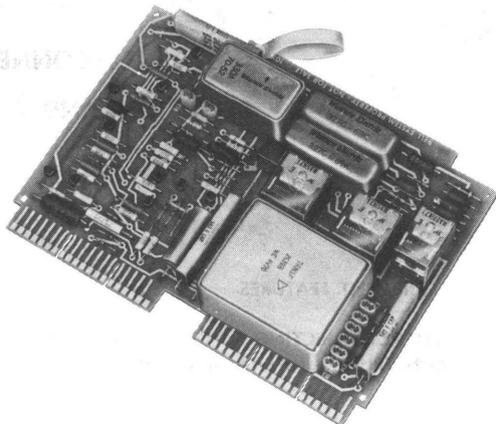

Fig. 2—101B (MD) Interconnecting Unit
**2.02 101B (MD) Interconnecting Unit**—An 8-inch circuit pack, an improved replacement version of the 101A. Provides line impedance matching and increases the range limitation to the CPE from 18 ohms to 100 ohms maximum on the supervisory leads. (See Fig. 2.) May be used with 75A control unit for data applications. Intended to mount in a 604-type or 615A panel.